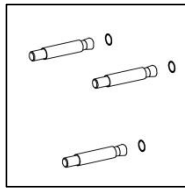

Fig.2.
2.Insert the included three Expansion Bolt (1) into the drilled mounting holes. You may need to use a hammer to secure them through the holes. See the(Fig.2.)